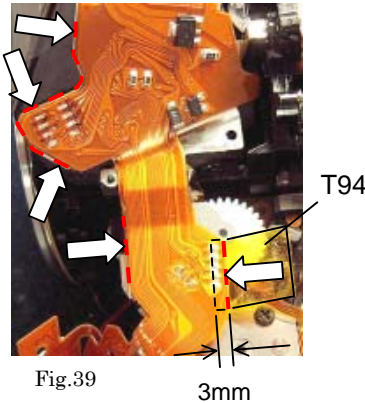

Fig.39
- When installing 0-T100, stick 0-T100 on the Main body with care taken to the position indicated by arrow in Fig.39 and 40.